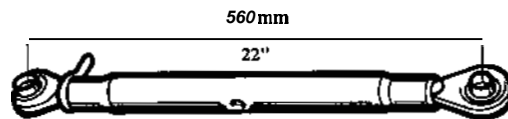

Fig. 10
- 12 Set preliminary adjustment of hitch top link to 22 inches (560 mm) as shown. Fig. 10.